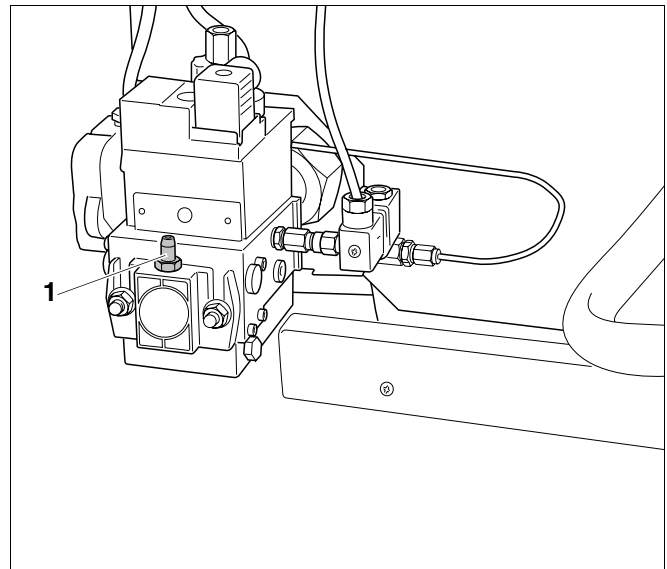

Fig. 5 Purging the gas supply pipe
- Release the plug on the test port for gas supply pressure and venting (Fig. 5, **Item 1**) on the gas train by two turns, and connect the hose.